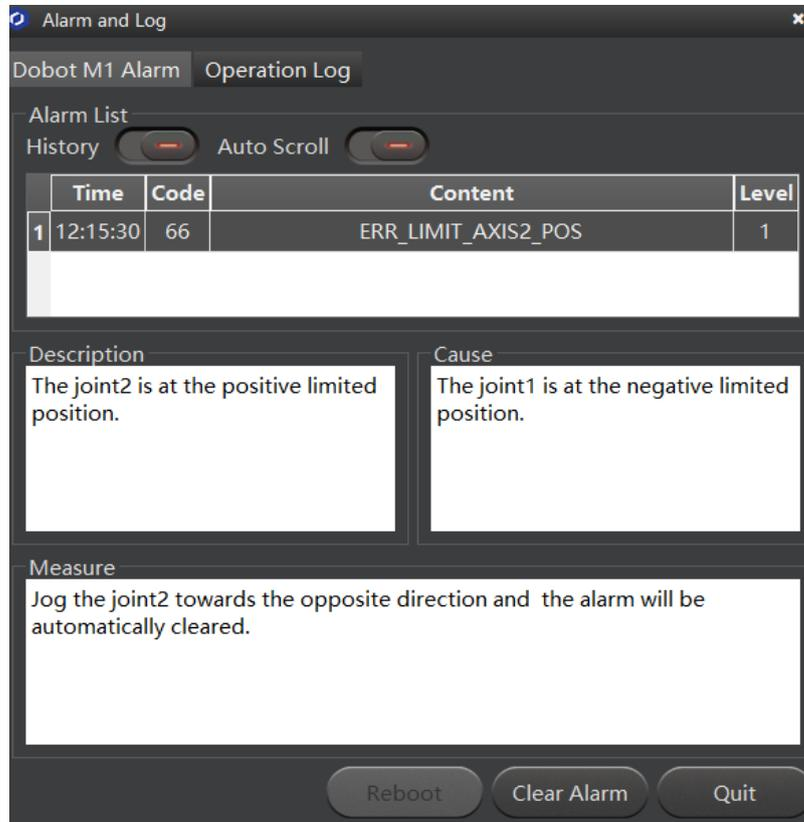

Figure 6.2 Alarm GUI
**Step 2** View the corresponding alarm on the Dobot Alarm tab. According to **Measure** to clear the alarm, as shown in Figure 6.2.
**Step 3** Click **Clear Alarm** on the bottom pane of the **Dobot M1 Alarm** tab, as shown in Figure 6.2.